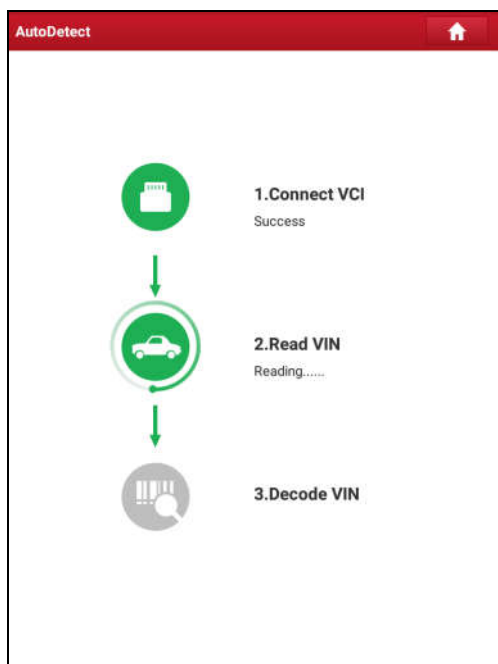

Fig. 5-2
1. Tap "AutoDetect" on the Diagnose main menu screen to enter Fig. 5-2.